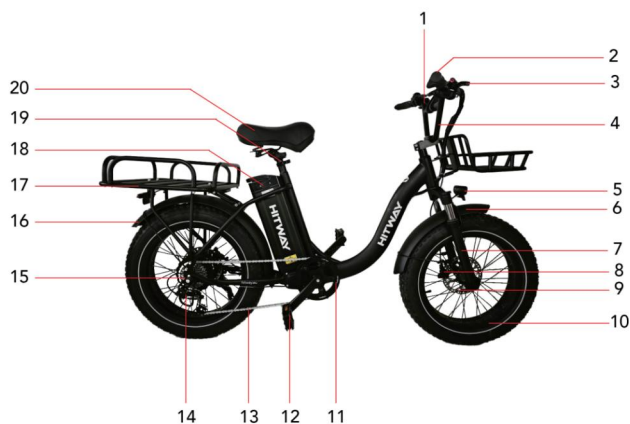

Figure 1 (Whole vehicle diagram)
1. Insert the key into the keyhole shown in Figure 1, turn the key to the right from the 'OFF' position to the 'ON' position.